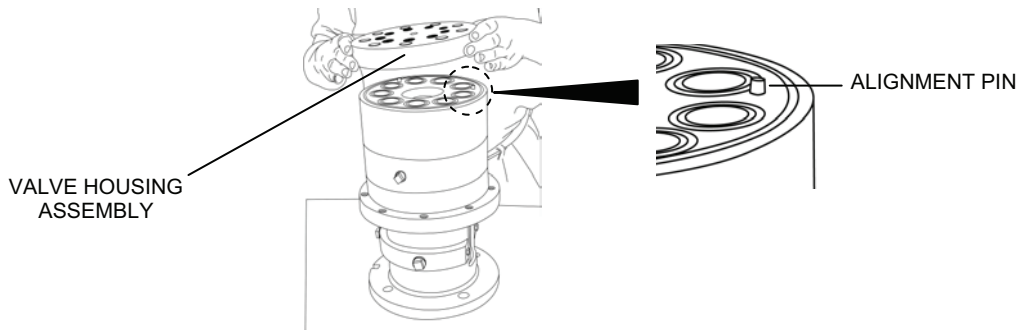

Figure 4. High Pressure Pump Valve Housing Removal.
- i. Remove the valve housing (see Figure 4).